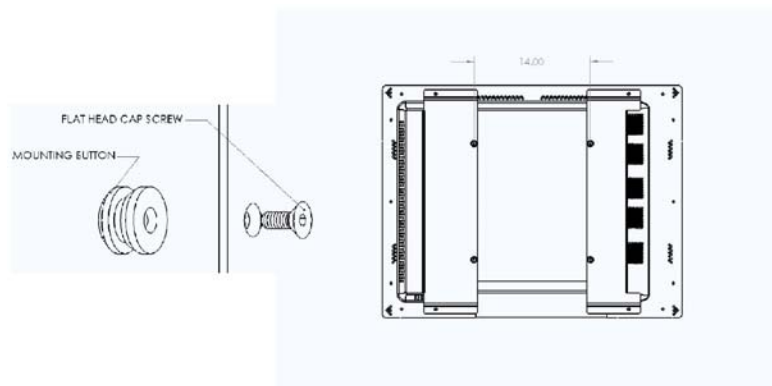

Figure 2
2. Align hole pattern on brackets with pattern on back of Plasma Display and attach using enclosed cap screws (see Figure 2).